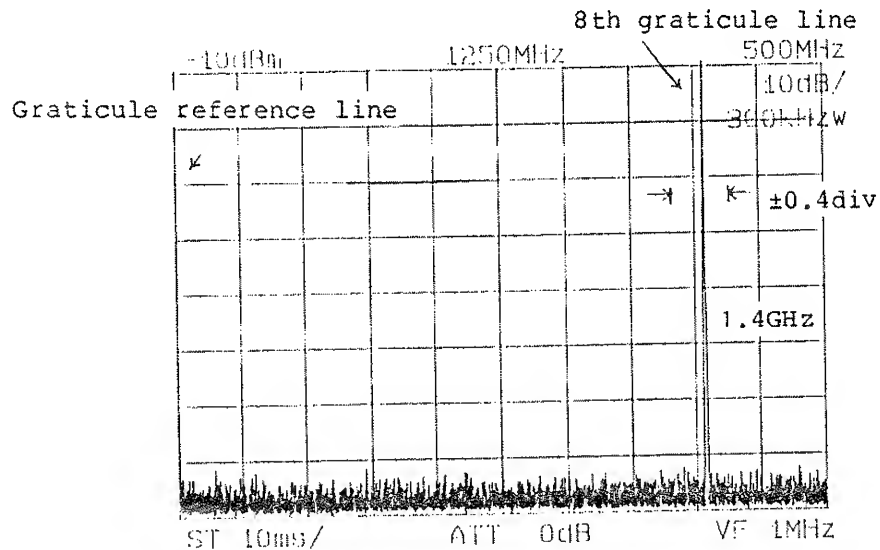

Figure 11-3 Frequency Span 500 MHz Test
- ⑧ Set the output of TR4511 synthesized signal source to -10 dBm, 1 GHz modulation off.
- ⑨ Turning the TUNING dial, adjust the 1 GHz input signal to the leftmost graticule on the display screen.
- ⑩ Set the output frequency of the TR4511 synthesized signal source to 1.4 GHz. Check that the signal is positioned on the eighth graticule from the leftmost graticule on the display screen (or within ± 0.4 division of the eighth graticule). (See Figure 11-3.)